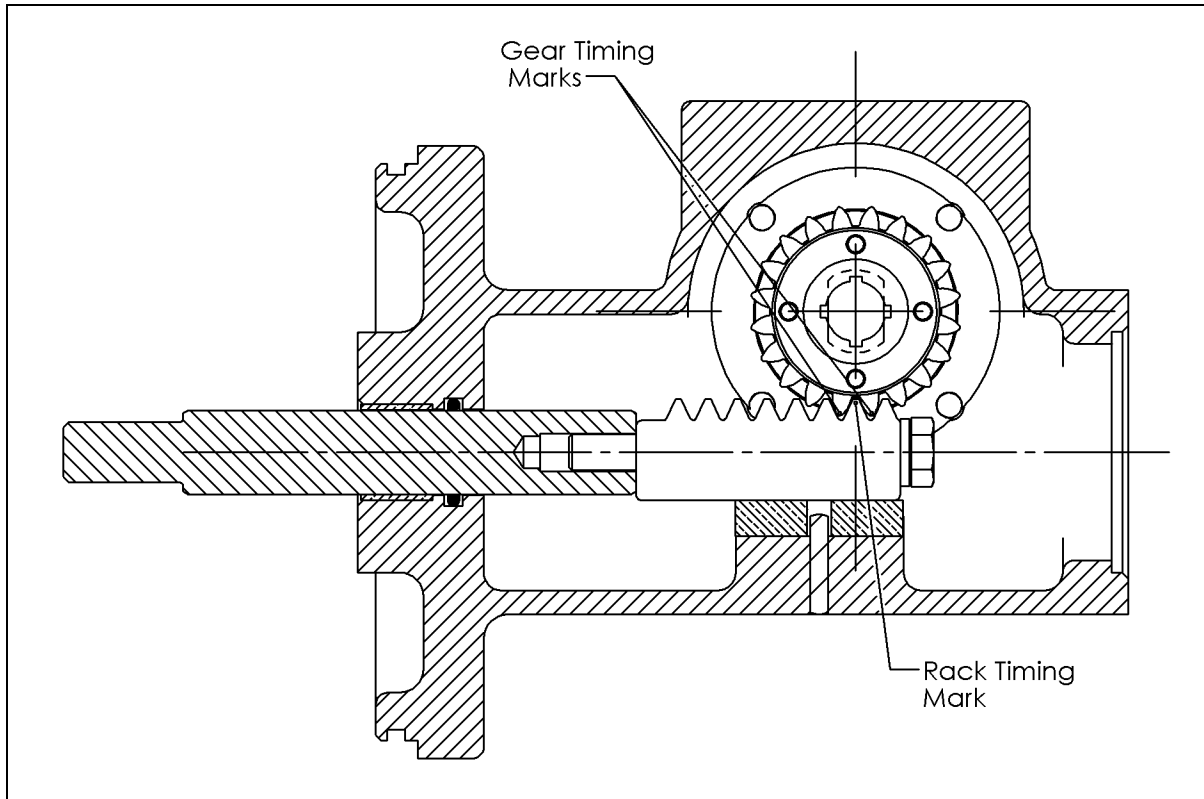

Figure 6 – Gear and Rack Alignment
11. Apply a liberal amount of lubricant to the teeth and journals of the gear (B8), then place the gear in the housing (B1) with the tapped holes facing up and carefully align the teeth with the rack as shown in Figure 6.